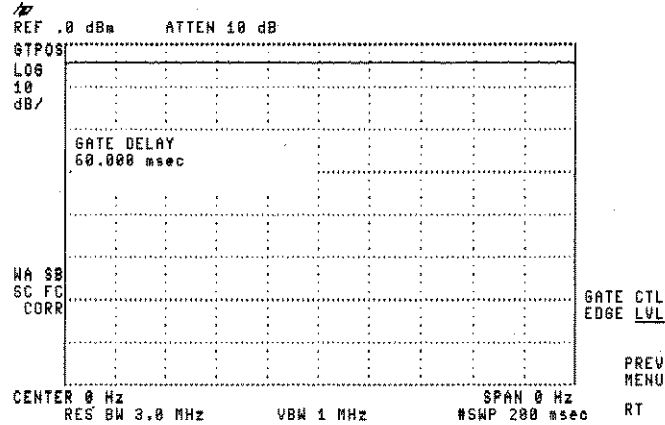

Figure 4-33. Using the Level Gate Control
- To check the gate control function, press **SWEEP**, **Gate Control**, **GATE CTL EDGE LVL** so that **LVL** (level) is underlined. (See Figure 4-33.)